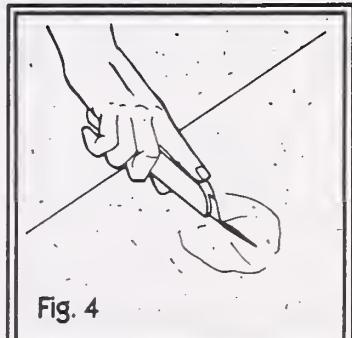
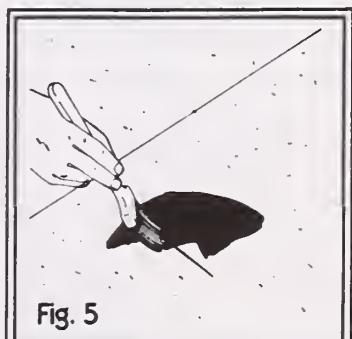

Fig. 4
Fig. 5
With a *miter box*, you can saw off a piece of board at an exact angle. It may be of wood, to use with a separate saw (fig. 4). Or it may be steel, with the saw set in the steel box (fig. 5).
Using a knife, cut the blister (fig. 4). Then put asphalt cement into the area, similar to filling a crack. Continue, using the repair procedures for cracks. (See steps 2 and 3 below.)
2. Using the brush or putty knife, place a thin layer of asphalt cement over the crack. The cement should completely cover the cleaned area around the crack (fig. 5).
If the crack is wide, add a sheet metal patch. To do this, drive a square piece of sheet metal up under the cracked shingle (fig. 4). Make sure that the top of the sheet metal goes beyond the upper edge of the crack. Now complete the job as described above for the small crack.
5. If shingles are damaged beyond repair, replace them. This can be more tricky than repairing a cracked shingle (fig. 5).